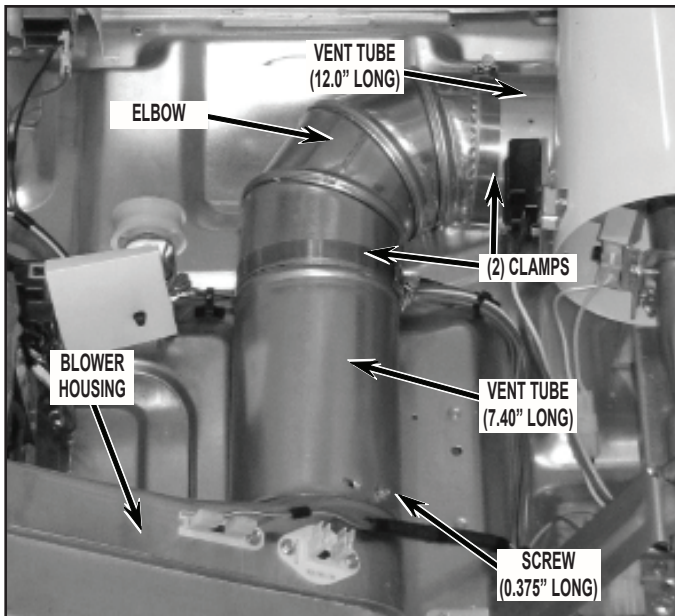
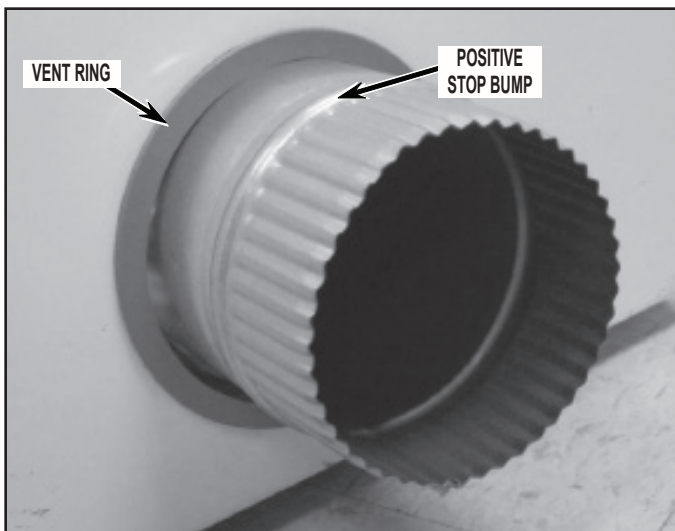

FIGURE 33
FIGURE 34
- Assemble the 305 mm (12.0") long vent tube and elbow from kit together using clamp included in kit. Tighten clamp to hold sub assembly together. See *Figure 33*.
- Feed this vent tube sub-assembly into the dryer and out the right side panel exhaust hole. Use clamp included with kit, slide it onto the elbow and press the elbow onto the 187 mm (7.40") vent tube. See *Figure 33*.
- Assure the positioning of the exhaust vent assembly and securely tighten both clamps. See *Figure 33*.
- From the outside of the dryer, install the vent ring included with kit by sliding over exhaust vent tube and snap into place. See *Figure 34*.
- Assure the positioning of the exhaust vent assembly, making sure the positive stop bump on the 305 mm (12.0") long vent tube is on the outside of the dryer. See *Figure 34*. Securely tighten both clamps. See *Figure 33*.